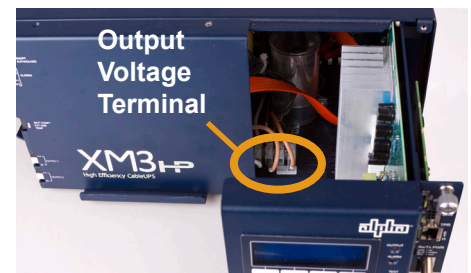

Fig. 2-13, Removing Inverter Module and Output Voltage Terminal Location
1. To access Output Voltage Terminal, remove the Inverter Module (see Fig. 2-13).